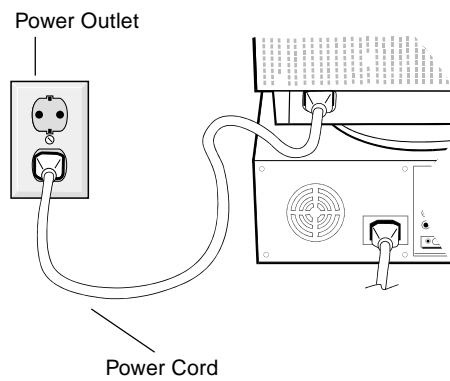

Figure C.1
5. Connect one end of the power cord to the MultiSync FE750+ monitor and the other end to the power outlet (**Figure C.1**).